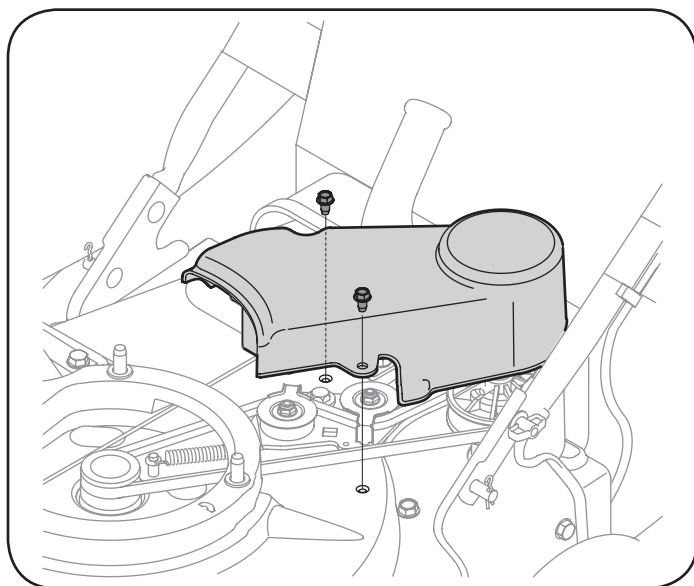

Figure 16
4. Remove the three self tapping screws securing the belt cover, and remove belt cover. See Figure 16.